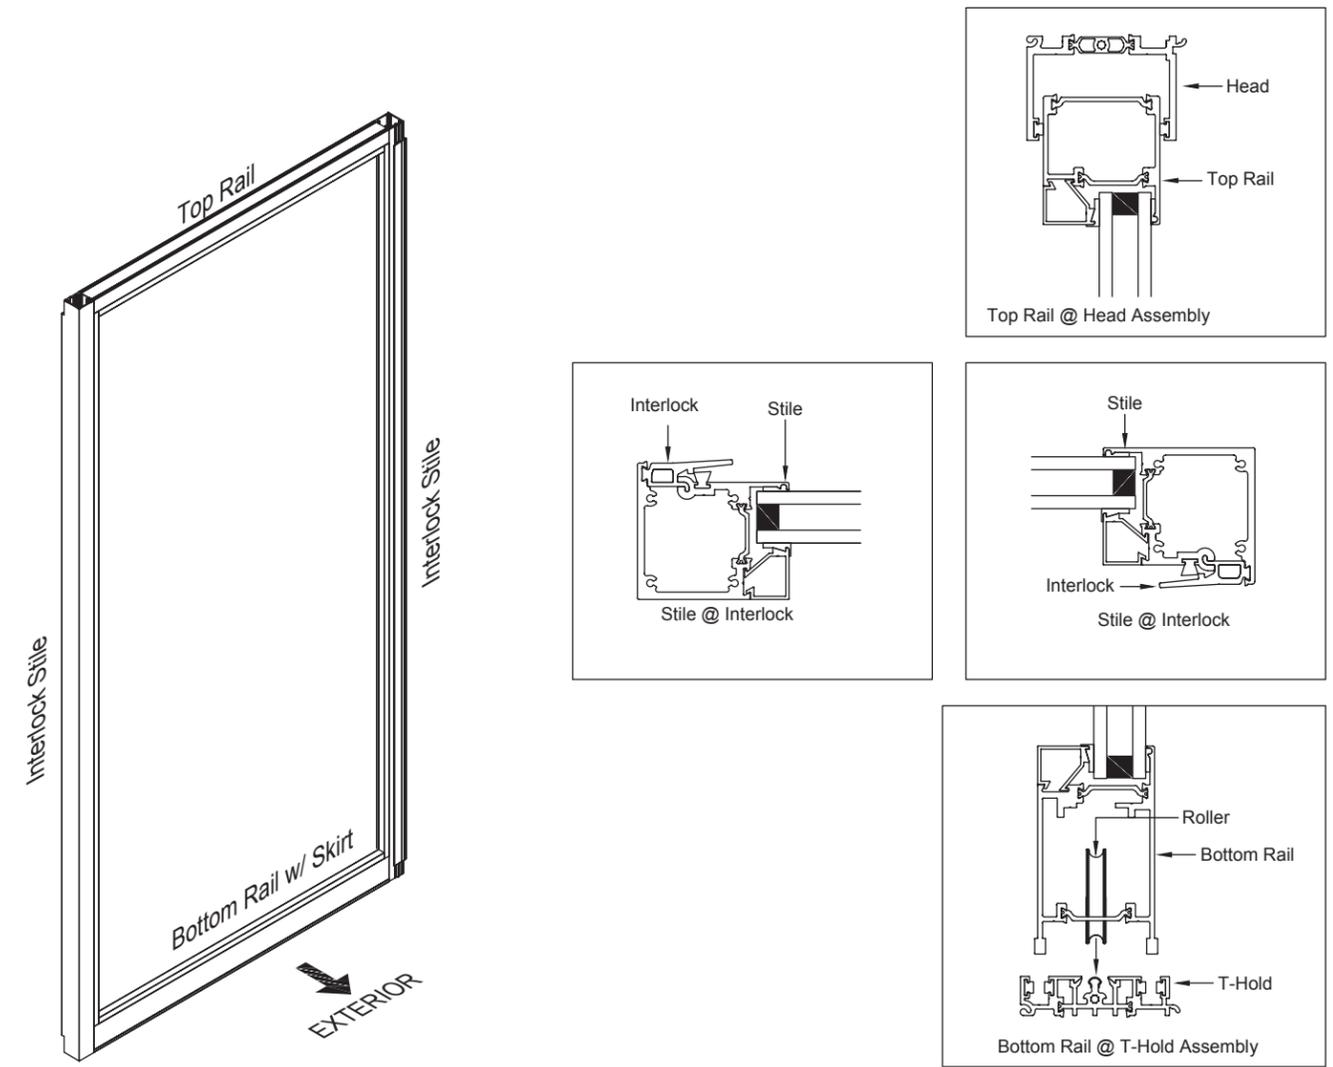

Fig. 4
5. **Intermediate panel components:** Top Rail, two Interlock Stiles, and Bottom Rail with Skirt. **See Fig. 4:**